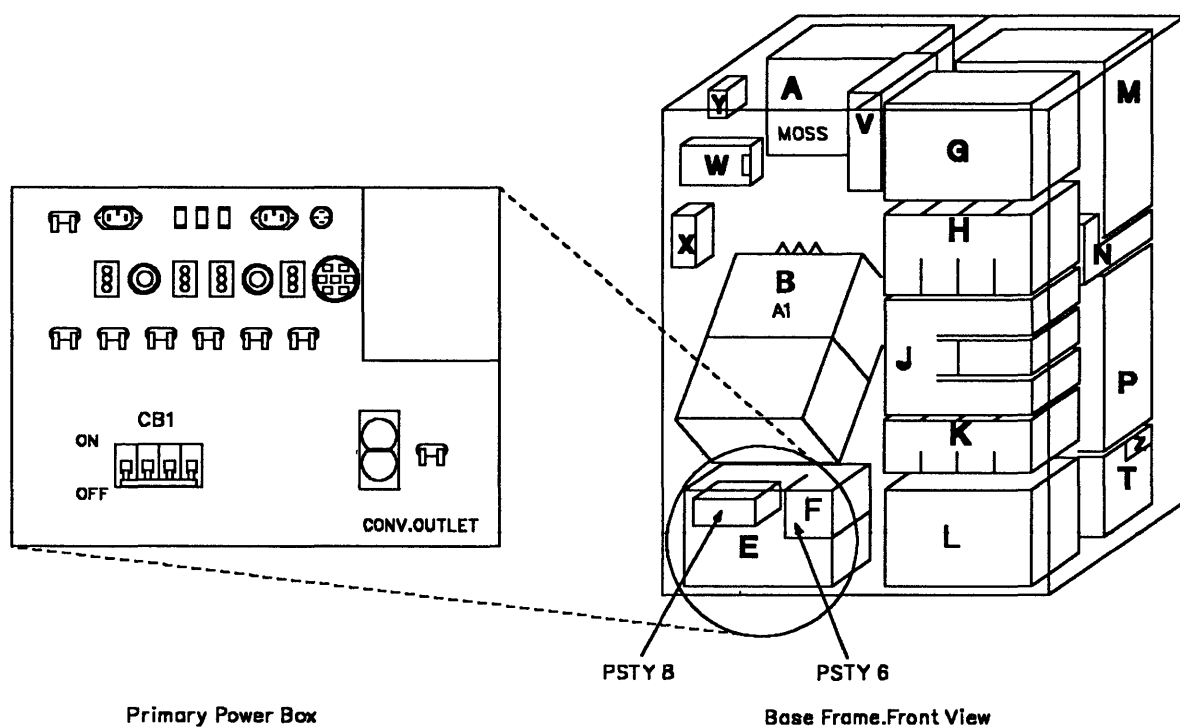

Figure 5-159. Primary Power BOX in Frame 01
4. Switch CB1 OFF. Refer to Figure 5-159 for the location of CB1.